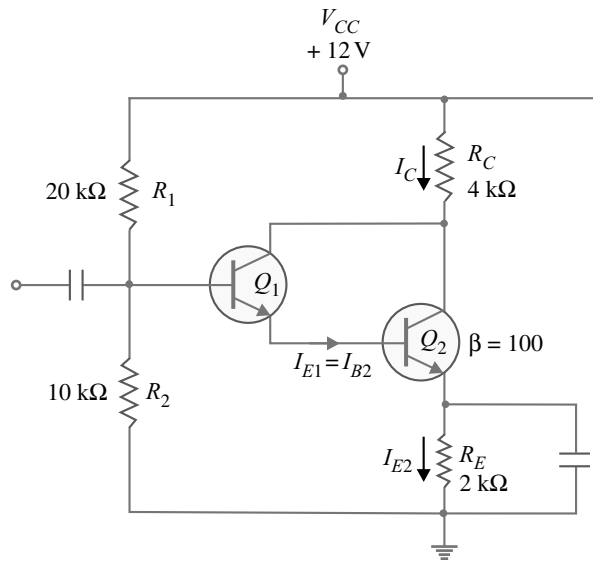

Fig. 11.43
**Example 11.33.** For the Darlington amplifier in Fig. 11.43, find (i) the d.c. levels of both the transistors and (ii) ac emitter resistances of both transistors.